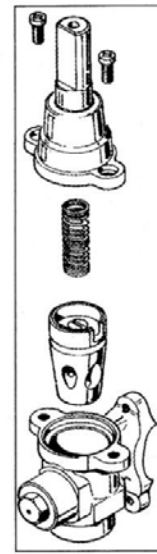

Fig. 10
1) Dismantle the main part of the tap by unscrewing the two screws that can be found on the bar of the tap itself. (Fig. 10)